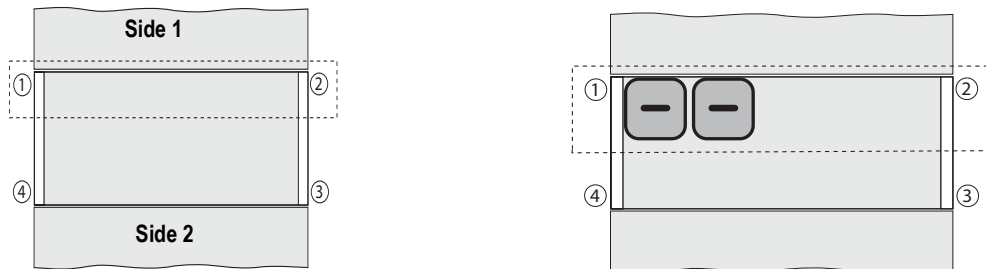

Figure 6-2. Trimming Load Cell Side One
1. Place the certified test weights as close as possible to Side 1 being trimmed with the weights centered over the end load cell mount (number 1 in Figure 6-2). Record the indicator reading. Remember that the scale is still uncalibrated, so the indicator readings are simply raw counts rather than weight units.